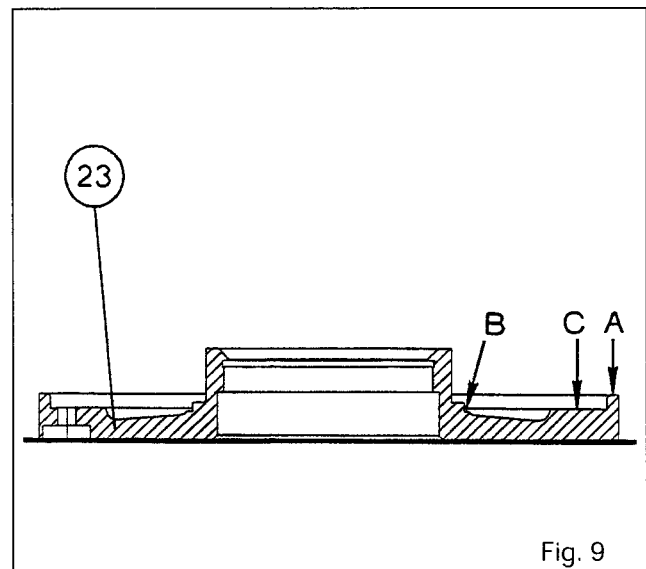
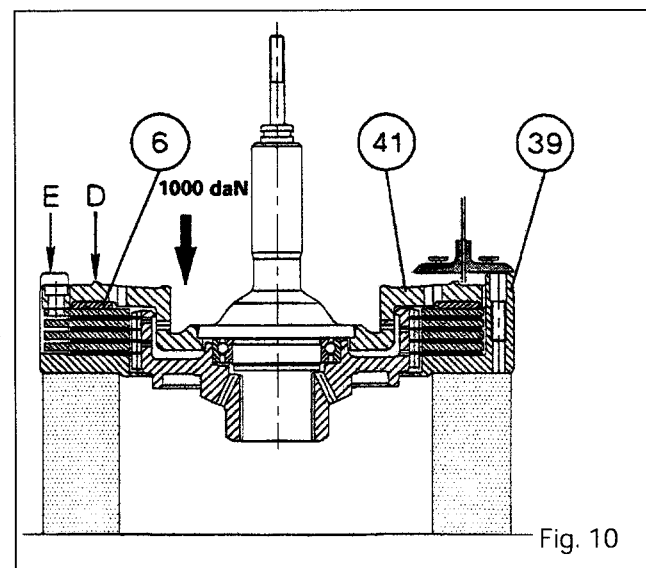

Fig. 9
Fig. 10
47. Mount pressure plate (41) assembled in box (39) (Fig. 10).
**Note: The stud (12) should be secured using Loctite 270.**
48. Using a depth gauge, measure the side between faces B and C, taking face A as reference (Fig. 9) (the inner diameter of the Belleville springs (4) that outer diameter contacts D face).
49. Using the service tool Nr. 3378053M1, compress the progressive washer (6) under a load of 1000 daN (Fig. 10).
50. Measure the distance between two diametrically opposed locations on D and E faces (Fig. 10). Compute both readings average (Belleville springs (4) outer diameter contacts D face).